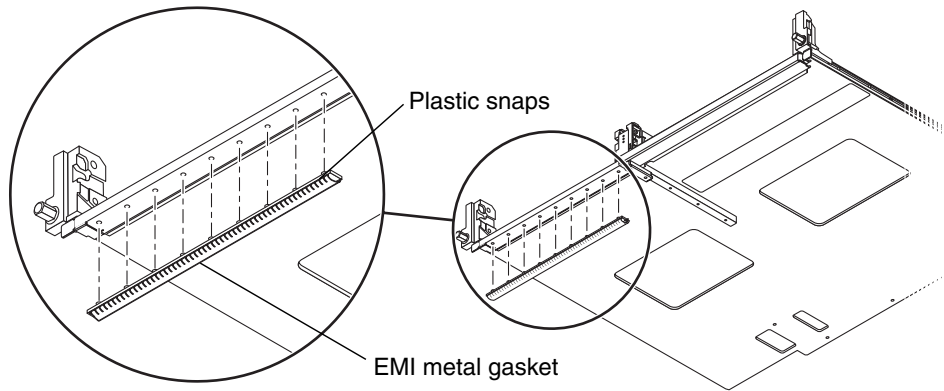

FIGURE 10-6 Installing the EMI Metal Gasket
9. Install the new gasket by aligning the nine (9) plastic snaps with the row of nine (9) holes at the front edge of the carrier plate (FIGURE 10-6). Using your thumb and forefinger, apply pressure to the snaps until each snap is fully seated into the nine (9) holes and no visible bumps or ridges are showing on the new carrier plate.